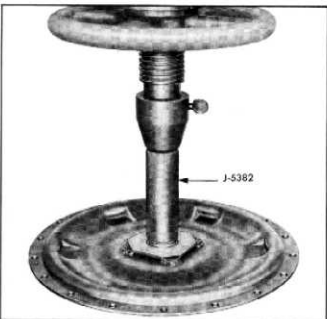

Fig. 177—Replacing Converter Cover Bushing
2. Place new bushing on pilot end of converter cover bushing replacer, tool J-5382, and press bushing into position (fig. 177).